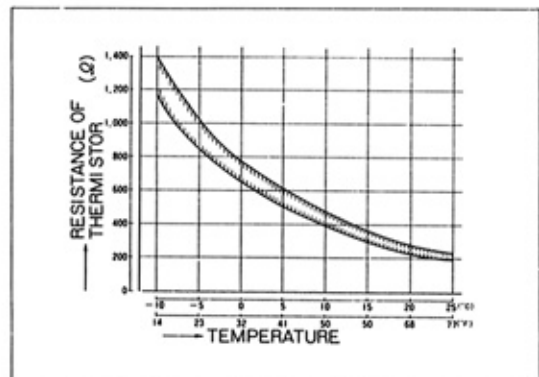

Fig. 58
- Relate two readings (resistance and temperature) on the following chart. (See Fig. 58)